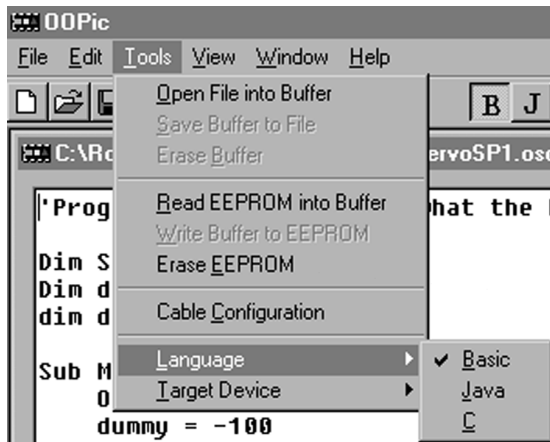

Figure 2-5 Setting the OOPic language option
- Select your language, in this case Basic, from the Tools pulldown menu, as shown in Figure 2-5.
- Select your language, in this case Basic, but press the B button on the Toolbar, which is also shown selected in the upper right of Figure 2-5.